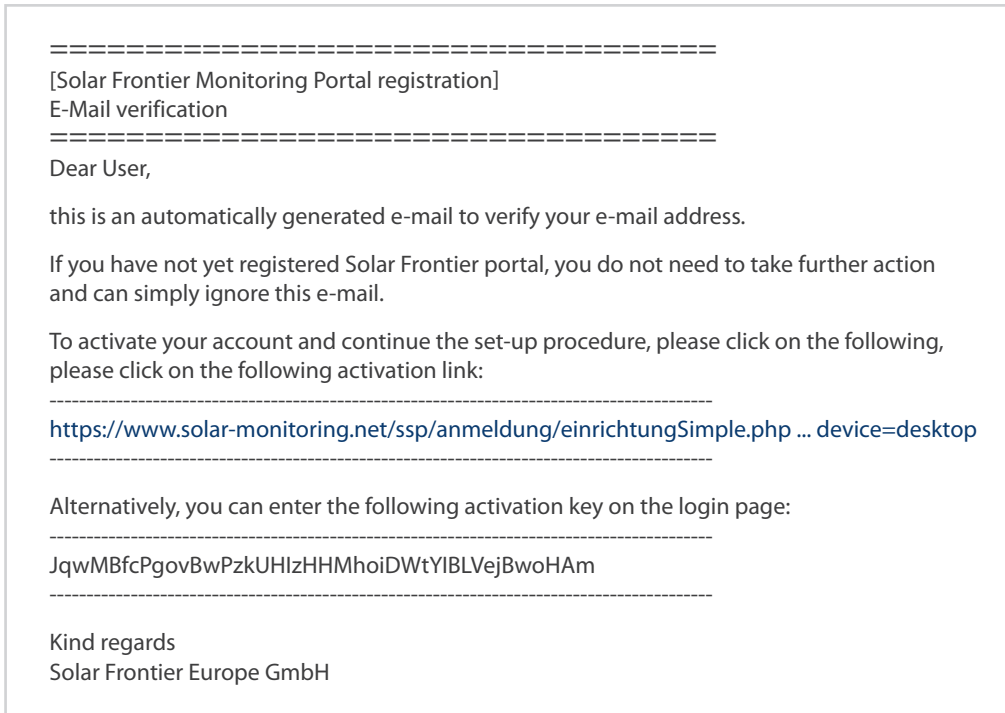
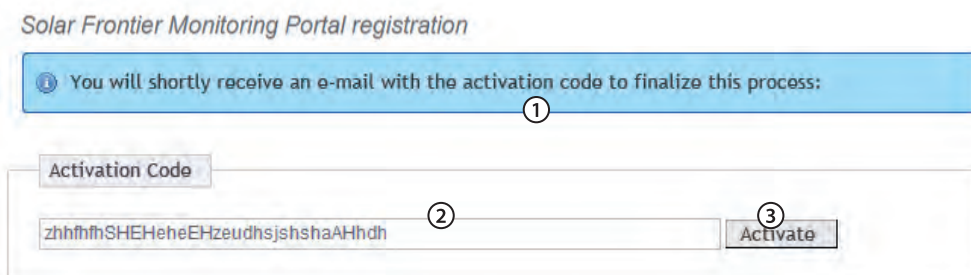
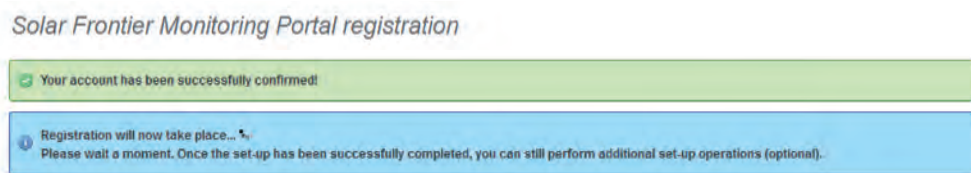

Figure 58
Figure 59
Figure 60
2. Enter the installed powerA) of the system into the field ②.
3. Enter a descriptionA) of the system into the field ③. Observe the note ④.
4. Use the Google Maps buttons ⑤ to ⑦ to navigate to the location of the system.
- The location data is displayed in the fields ⑧.
5. Enter an optional address of the system into the field ⑨.
6. Select the check box ⑩ and confirm via the button ⑪.
- Figure 58 appears; an email with the activation code, as shown in Figure 58, is sent to the email address ① in Figure 55.
1. Enter the activation code that you received in the email as per Figure 58 into the field ② (Figure 59).
2. Confirm via the button ③.
- If the registration was successful then Figure 60 appears and you will receive an additional confirmation email (Figure 61). This email contains a direct link to Figure 63, p. 54.
- ① Username data entry field (= email address)
- ② Password data entry field
- ③ Button for logging in after ① and ② have been entered. After logging in, the functions as per the legend shown in Fig. 58 are available.
- ④ Data entry field for the postal address of the system that is to be displayed.
- ⑤ Data entry field for the name of the system that is to be displayed.
- ⑥ Map for searching for systems.